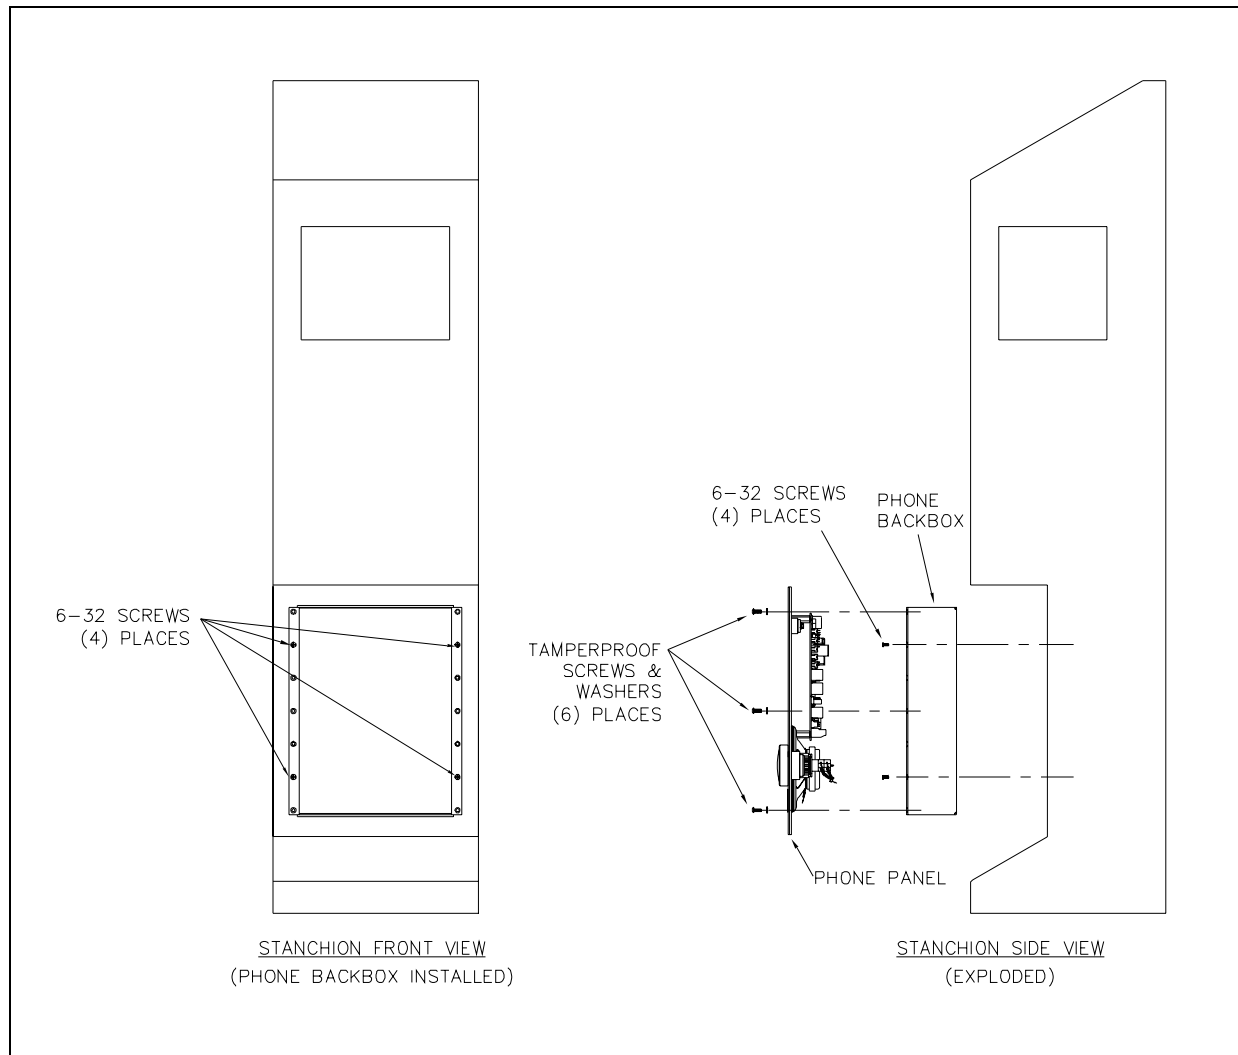

Figure 7. Telephone and Back Box Installation
2. Place the back box into the phone opening from the front of the stanchion. Mount the box using four of the 6-32 self-tapping flat head screws. Refer to Figure 7 below. The telephone back box has two openings, one in the top and one in the bottom. Plug the top opening with a hole plug. The bottom of the back box is the recommended entry location for the telephone line and strobe control wires.